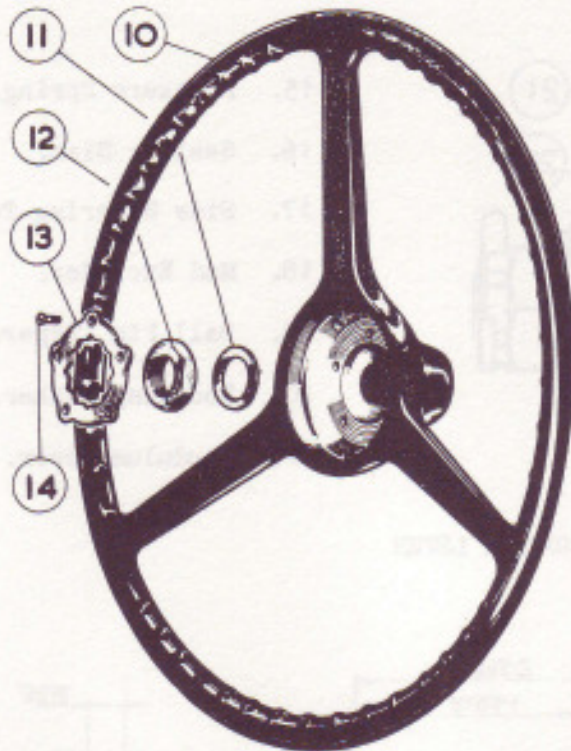

FIG. 3. STEERING WHEEL.
- (xi) Remove the five screws (14, Fig.3) from hub of steering wheel, then remove locking plate (13), nut (12) and washer (11). Lightly mark hub of the steering wheel and steering cam tube so that they can be refitted in the same relative position, and then remove the wheel from the tapered splines of the steering tube by means of the special extractor, Tool No.3243/T1006.